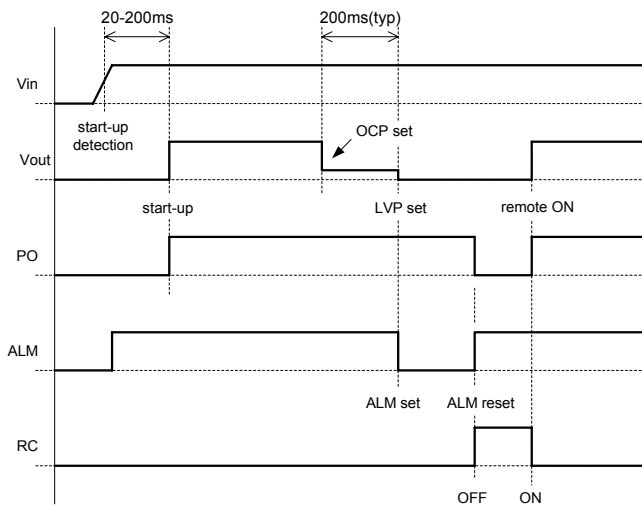

Fig.4.4 Sequence time chart
- The sequence time chart of Vin, Vout, PO, ALM and RC pins is shown in Fig.4.4.